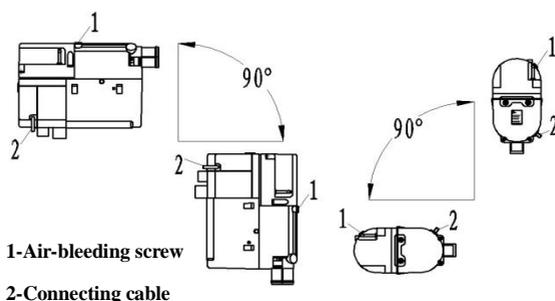

Fig.4
4.2.3 Choice of position for installation of the heater shall facilitate release of air from the water pipe. It is allowed to incline to suit different arrangements for installation, but deviation from the “normal installation position” shall not exceed 90°, as shown in Fig. 4. Normal position is horizon and the exhaust pipe vent down.